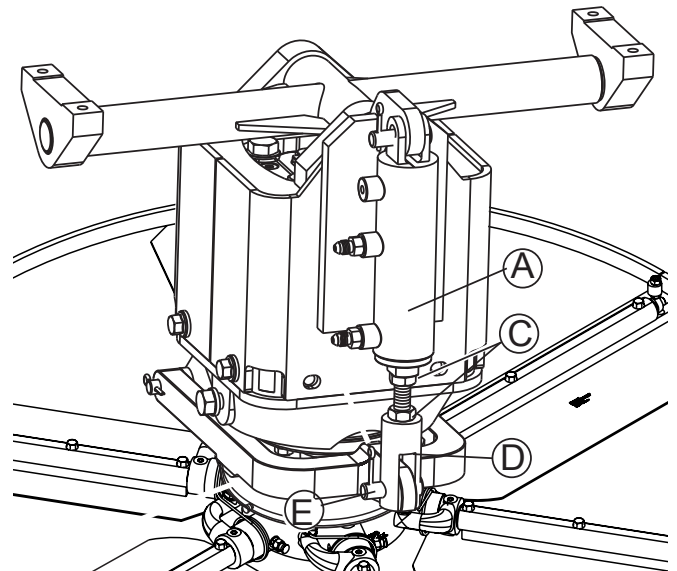

Figure 39. Blade Leading Edge Height Adjustment
3. Remove clevis pin (Item E, Figure 39). Loosen jam nuts (Item C, Figure 39) and adjust clevis (Item D, Figure 39) to cylinder (Item A, Figure 39) position, to raise or lower pitch as required.
4. Tighten jam nuts (Item C, Figure 39) and reinstall clevis pin (Item E, Figure 39).